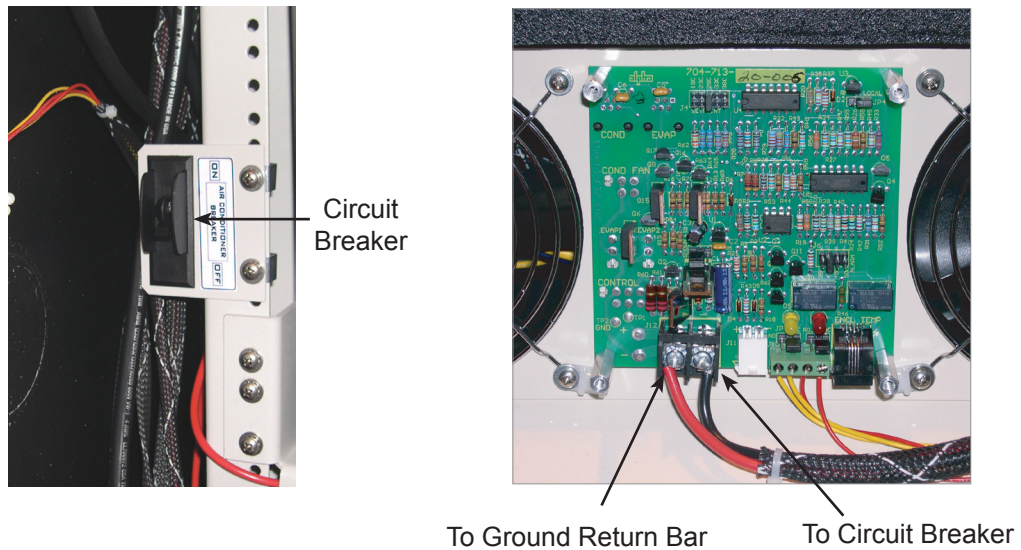

Fig. 2-5, Power Connections
1. Install circuit breaker mounting plate in a convenient location near the 48/24VDC source (see Fig. 2-5 below). Leave circuit breaker IN THE OFF POSITION.